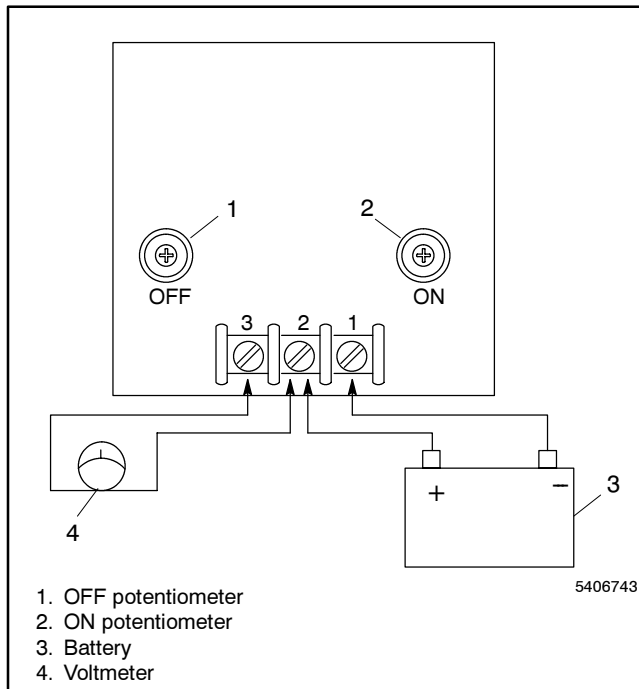

Figure 5-67 Cyclic Crank Board Test Connections
The cyclic crank circuit board, located in the controller, allows adjustment of the cranking cycle for improved starter motor engagement. See Section 2, Relay Controller Operation, and Figure 5-67. The factory setting is eight seconds *on* time and 3 seconds *off* time. If the cranking cycle seems too short, check the condition of the battery before readjusting the board. Timing decreases if the battery charge is too low. It is possible to vary on/off cycles from 1 to 60 seconds. Increase the *on* or *off* time periods by rotating the potentiometer clockwise. If the generator engine does not go through the cyclic crank routine during starting, verify that the cyclic crank board adjustment or setting is correct. The cyclic crank feature does not operate when both potentiometers are in the full counterclockwise position. If the cyclic crank circuit board is correctly adjusted but the engine does not go through the preferred crank cycle, test the board as described in the following procedure.
4. Connect a voltmeter across cyclic crank board terminals 2 and 3. Set voltmeter on 12–15 volt DC scale. Connect battery positive (+) terminal to circuit board terminal 2. Connect battery negative (-) terminal to cyclic crank terminal 1. See Figure 5-67.